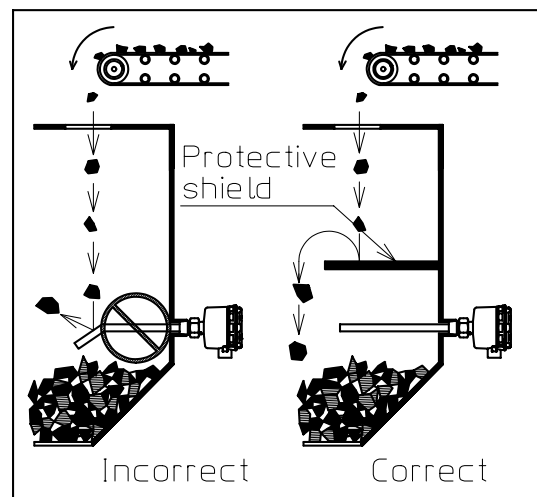
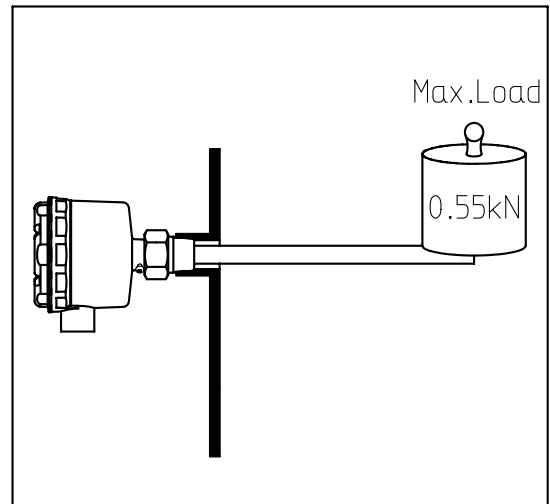

Fig6-6
Fig.6-9
Refer to Figure 6-6.
- (9) Maximum static lateral load at the tip of the detecting pipe is 0.55 kN. Please secure an appropriate safety rate. Otherwise, the detecting pipe, $\phi 16.0 \times L175$, will bend. Refer to Figure 6-9. Install the protective shield above it if necessary. Refer to Figure 6-6.